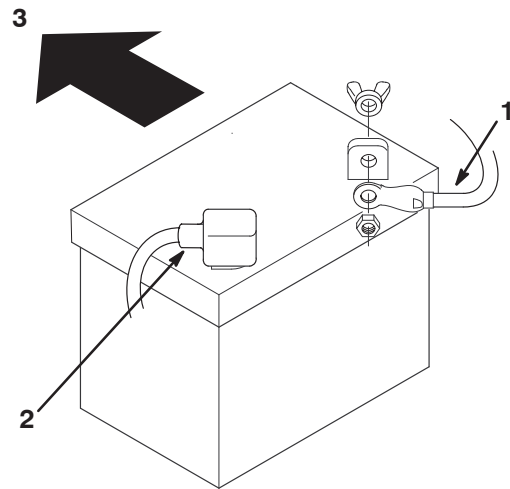

Figure 27
7. Disconnect the negative (black) ground cable from the battery post (Fig. 27).
9. Disconnect the positive (red) cable from the battery post (Fig. 27).
1. Place the battery into the chassis with the battery posts toward the front of the tractor (Fig. 27).
3. Using the bolt and wing nut, connect the positive (red) cable to the positive (+) battery post (Fig. 27). Slide the rubber cover over the battery post.
4. Using the bolt and wing nut, connect the negative (black) cable to the negative (-) battery post (Fig. 27). Slide the rubber cover over the battery post.